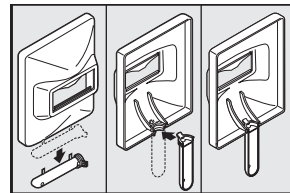

Figure 4
1. Cut detachable handle (WF2050 & WF2054 only; WF2057 is supplied with a fully assembled helmet) away from shield. Trim the excess plastic to remove sharp edges (See Figure 4).
2. To attach the handle, place shield on a flat surface and press handle into place (See Figure 4).